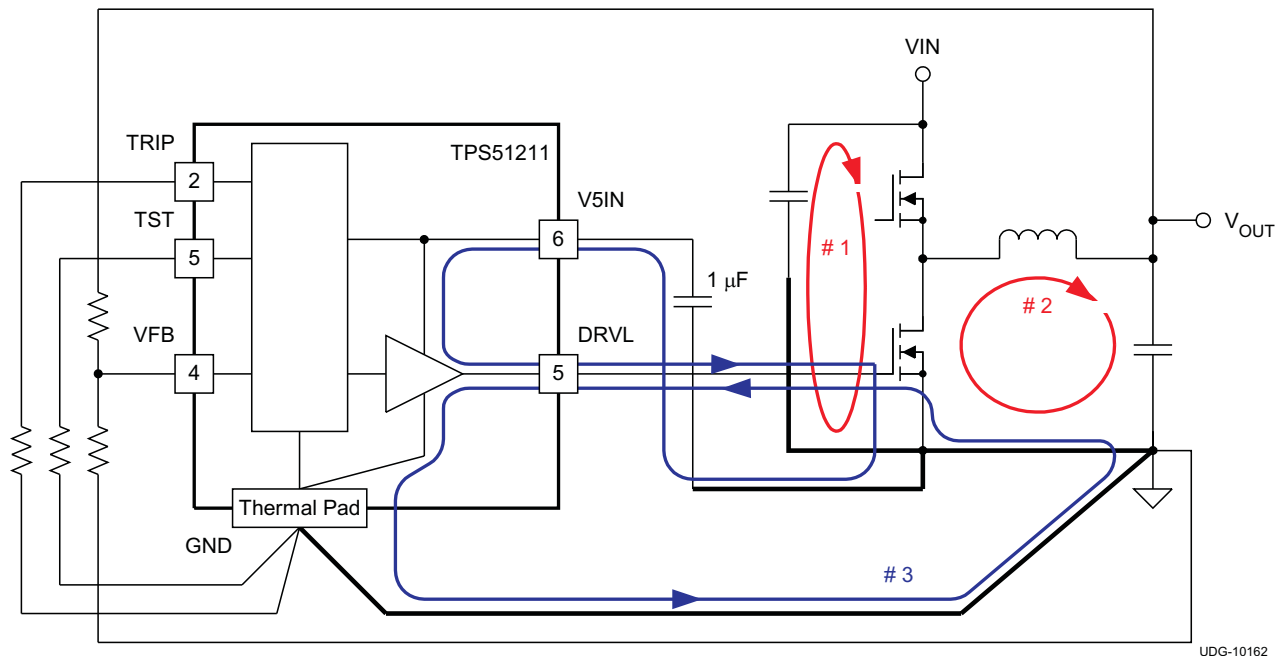

Figure 17. Ground System of DC/DC Converter Using the TPS51211
- The most important loop to minimize the area of is the path from the V_{IN} capacitor(s) through the high and low-side MOSFETs, and back to the capacitor(s) through ground. Connect the negative node of the V_{IN} capacitor(s) and the source of the low-side MOSFET at ground as close as possible. (Refer to loop #1 of Figure 17)
- The second important loop is the path from the low-side MOSFET through inductor and V_{OUT} capacitor(s), and back to source of the low-side MOSFET through ground. Connect source of the low-side MOSFET and negative node of V_{OUT} capacitor(s) at ground as close as possible. (Refer to loop #2 of Figure 17)
- The third important loop is of gate driving system for the low-side MOSFET. To turn on the low-side MOSFET, high current flows from $V5IN$ capacitor through gate driver and the low-side MOSFET, and back to negative node of the capacitor through ground. To turn off the low-side MOSFET, high current flows from gate of the low-side MOSFET through the gate driver and GND pad of the device, and back to source of the low-side MOSFET through ground. Connect negative node of $V5IN$ capacitor, source of the low-side MOSFET and GND pad of the device at ground as close as possible. (Refer to loop #3 of Figure 17)